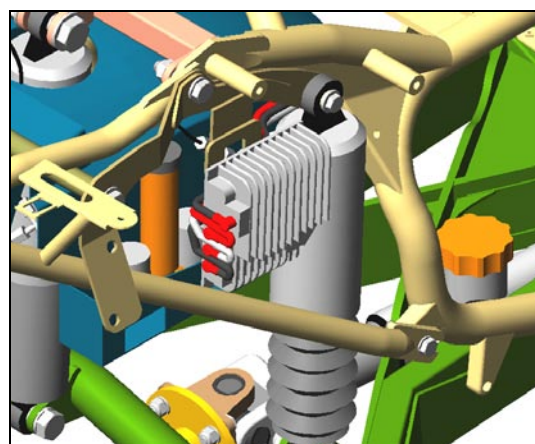

Figure 39
- c. Install reverse resistor assembly to mounting bracket on right side body frame hanger bracket. Figure 39